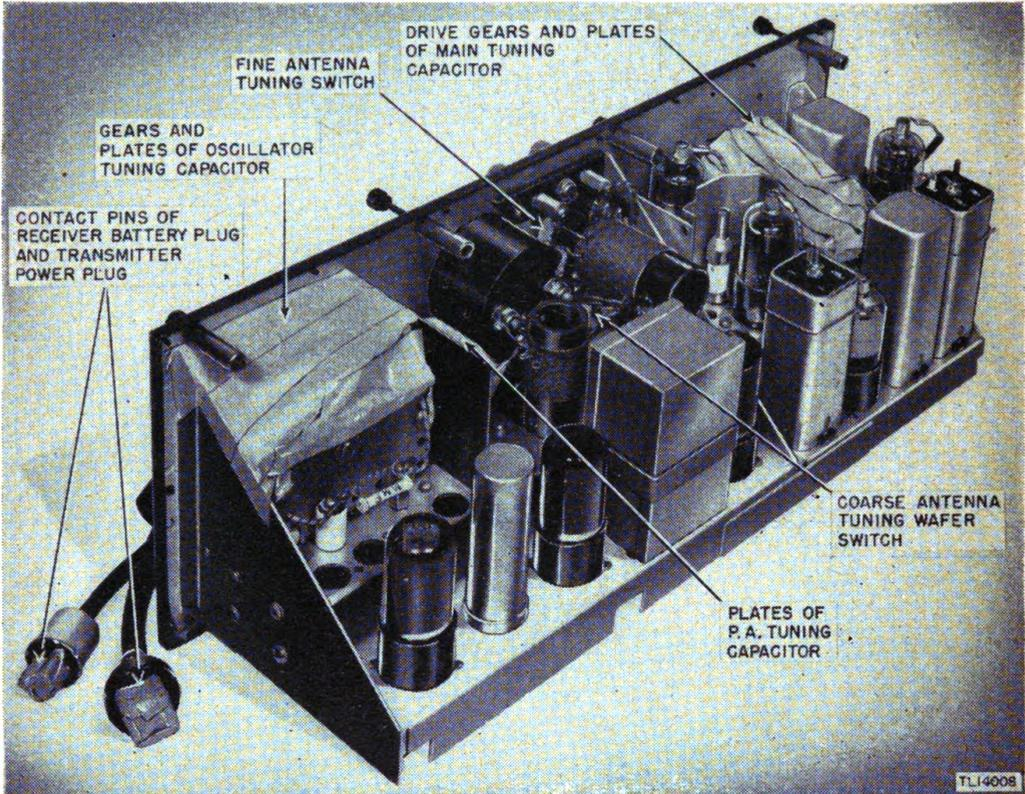

FIGURE 37.—Radio receiver and transmitter BC-474-()—top view of chassis showing method of masking parts.
(7) Contact pins of battery plug and transmitter power plug (fig. 37).
(8) Gears and plates of oscillator tuning capacitor (fig. 37).
(9) Plates of p-a tuning capacitor (fig. 37).
(10) Contacts of COARSE antenna tuning wafer switch (fig. 37).
(11) Openings in casing of FINE antenna tuning switch (fig. 37).
(12) Drive gears and plates of main tuning capacitor (fig. 37).